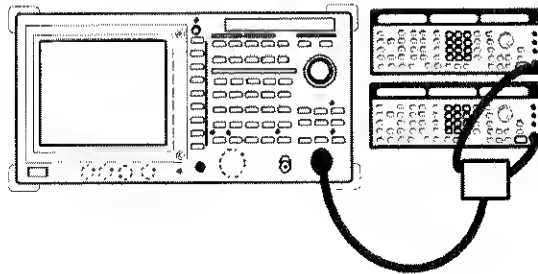

Figure 2-37 Setup for Measuring Two Signals Separately
1. Connect the signal generators as shown in Figure 2-37.